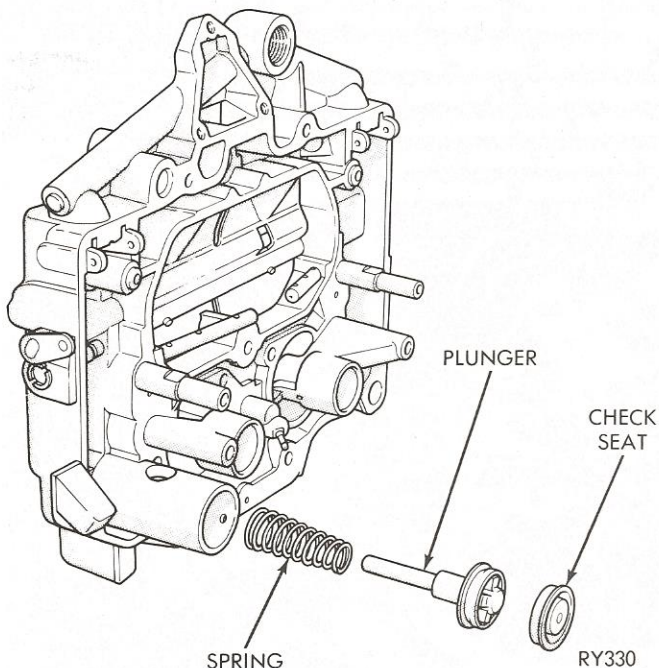

**Fig. 16—Removing or Installing Secondary Metering Jets**
(1) Remove float lever pins and lift out float assemblies. It is suggested that the float on the pump side be marked so that floats can be reinstalled in their respective positions.
(2) Remove two needle valves from their respective seats, after marking one on pump side for identification. Using a wide blade screw driver, remove needle valve seats. Be sure each needle valve is returned to its original seat at reassembly.
(3) Remove secondary metering jets (Fig. 16).
(4) Remove acceleration pump passage tube (plastic) and bowl cover gasket.
(5) Remove accelerator pump rod "S" link. To remove pump plunger assembly, use a small rod placed on upper end of plunger shaft and tap lightly with a
(1) Install secondary metering jets over bleed tubes and tighten securely (Fig. 16).